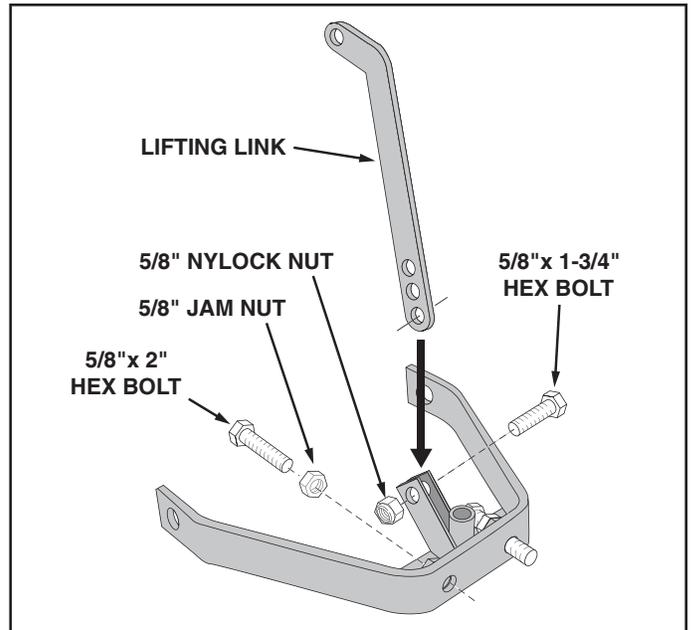

FIGURE 5
- Assemble the two 5/8" jam nuts halfway onto the two 5/8" x 2" hex bolts. Screw the bolts into the nuts that are welded to the Sleeve Hitch Lift Assembly. Tighten the jam nuts against the welded nuts. See figure 5.
- Assemble the Lifting Link to the Sleeve Hitch Lift Assembly using a 5/8" x 1-3/4" hex bolt and a 5/8" nylock nut. Use the bottom hole in the Lifting Link (gives the lowest implement depth setting). Tighten the nut only until snug. Do not squeeze the welded arms together. See figure 5.
- Attach an implement using the sleeve hitch pin. Tighten the 5/8" x 2" stabilizer bolts against the implement hitch and then tighten the jam nuts. See Figure 5 on Page 5.